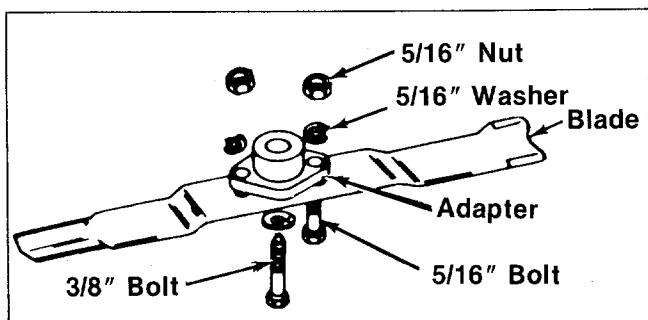

FIGURE 31. BLADE REMOVAL
1. Remove the large bolt and lock washer which holds the blade and adapter to the blade spindle. See figure 31.
3. If the blade or blade adapter needs replacing, remove the two small bolts, lock washers and nuts which hold the blade to the adapter. See figure 31.